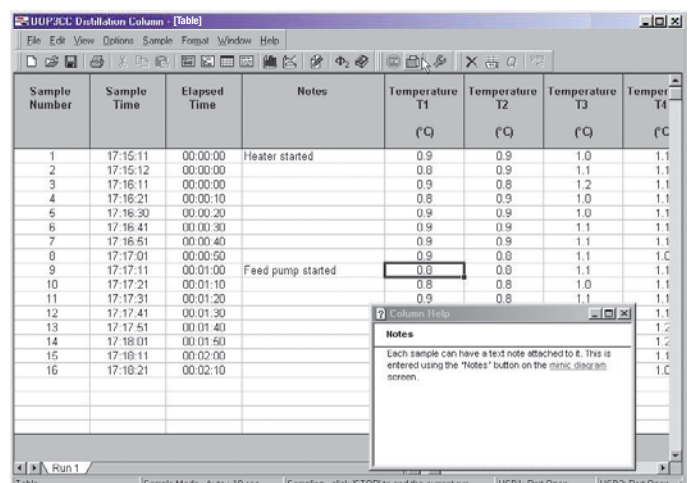

Fig. 9: Typical results displayed in tabular format
- setting up data logging and subsequent analyses of captured data, including use of spreadsheets (Fig. 9)